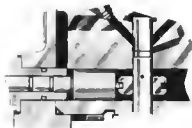

FIGURE 3-23. NORMAL DELIVERY
**Normal Delivery:** For normal delivery (Figure 3-23) the sleeve moves only part way up before the spill port opens to dump the high pressure